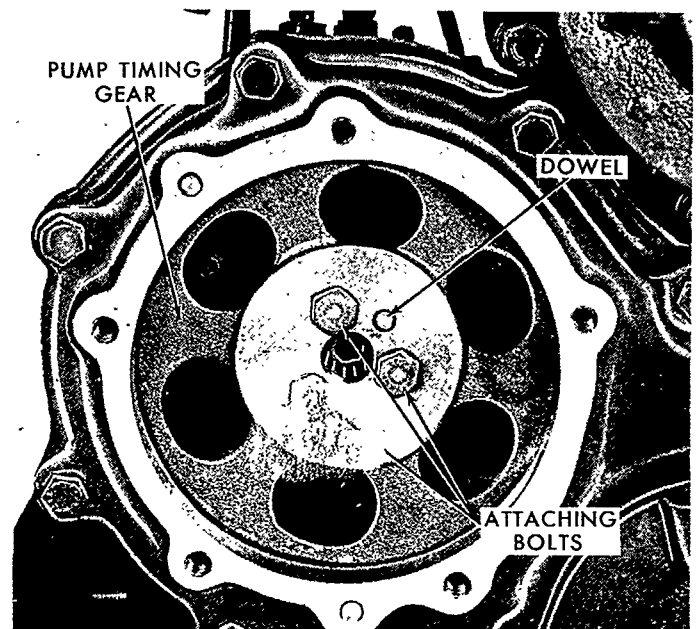

Figure 24
6. Remove the timing cover on the cylinder front cover and remove the three gear-to-pump bolts attaching the pump drive to the injection pump timing gear. See Figure 24.
2. Place a new pump-to-front cover plate O-ring on the injection pump mounting flange, and install the injection pump. Align the gear-to-pump dowel pin with the drive hub slot, install the three gear-to-pump bolts, and tighten to the specified torque, page 31. See Figure 24.